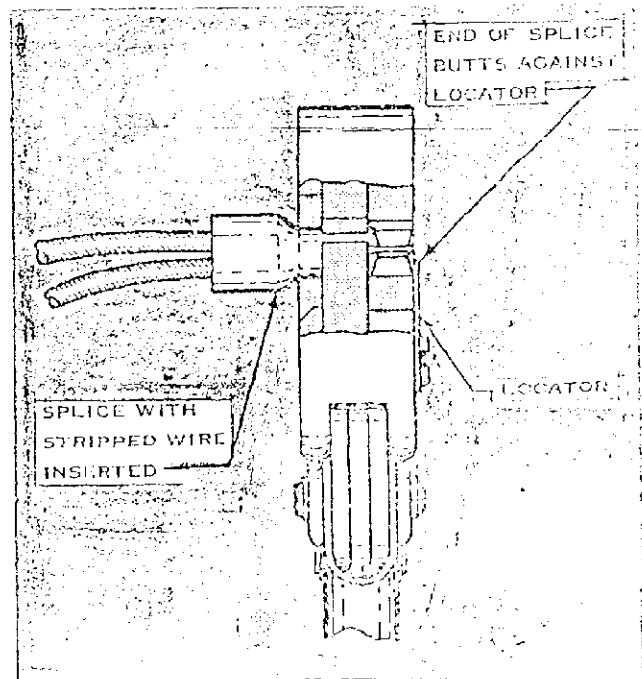

FIG. 3
- (d) Place Splice, with Wires inserted, into Crimping Dies as shown in Figure 3.